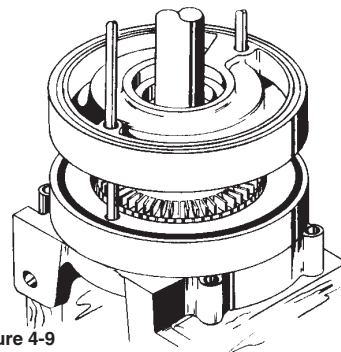

Figure 4-9
10. Slide a right hand channel ring (#9) onto the guide rods with the water channel facing downward, toward the impeller. (refer to figure 4-9) The small outlet opening should be in the "one o'clock" position. This completes one stage; a stage consisting of one left hand channel ring (#10), a right hand channel ring (#9), and an impeller (#11) between them.